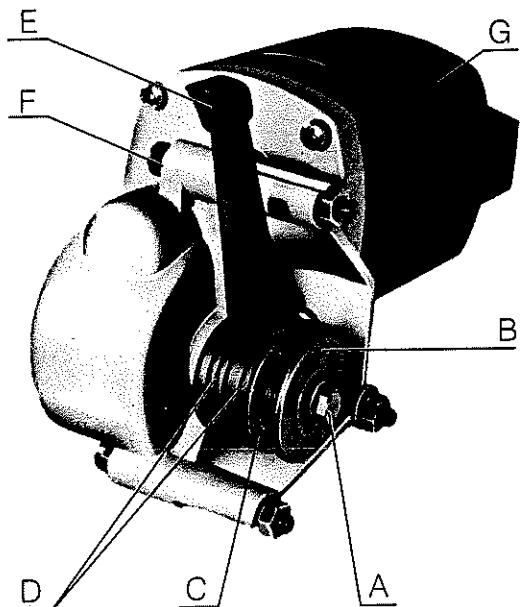

Fig. 36 – Sostituzione frizione e nottolino
10.5.3. Clutch and pawl (fig. 36)
- Loosen the three screws (F) that fix the geared motor (G) to the plate and remove the geared motor.
- Loosen the screw (A) and remove the spring supporting washer (B), the springs (C), the friction disks (D) and the pawl (E).